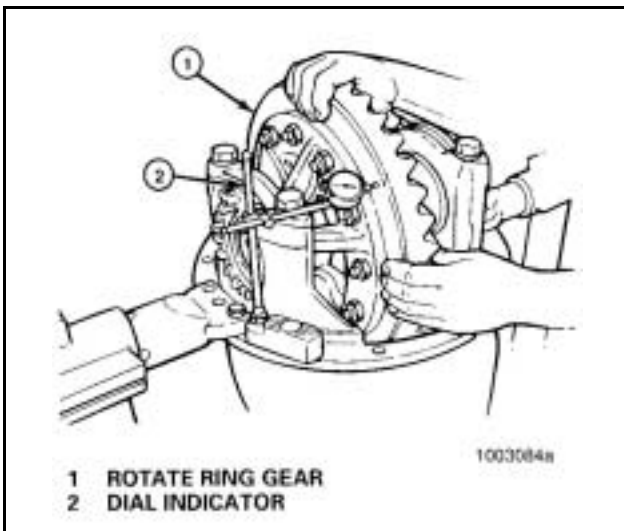

Figure 106
1. Attach a dial indicator on the mounting flange of the carrier. **Figure 106.**
3. Set the dial indicator to zero (0).
4. Rotate the differential and ring gear and read the dial indicator. The runout of the ring gear **must not exceed** 0.008 inch (0.20 mm). **Figure 106.**